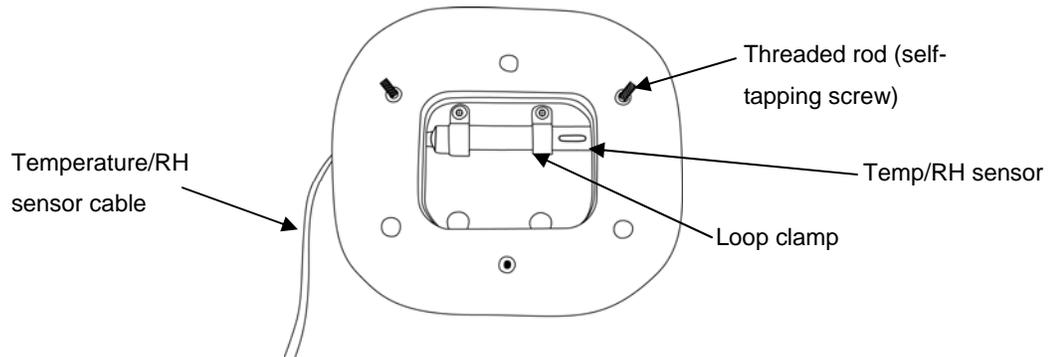

Figure 2: Temperature/RH sensor inside solar radiation shield
2. Install the temperature/RH sensor using the two black loop clamps, two washers, and two self-tapping screws (see Figure 2). Be careful not to block the RH sensor openings.